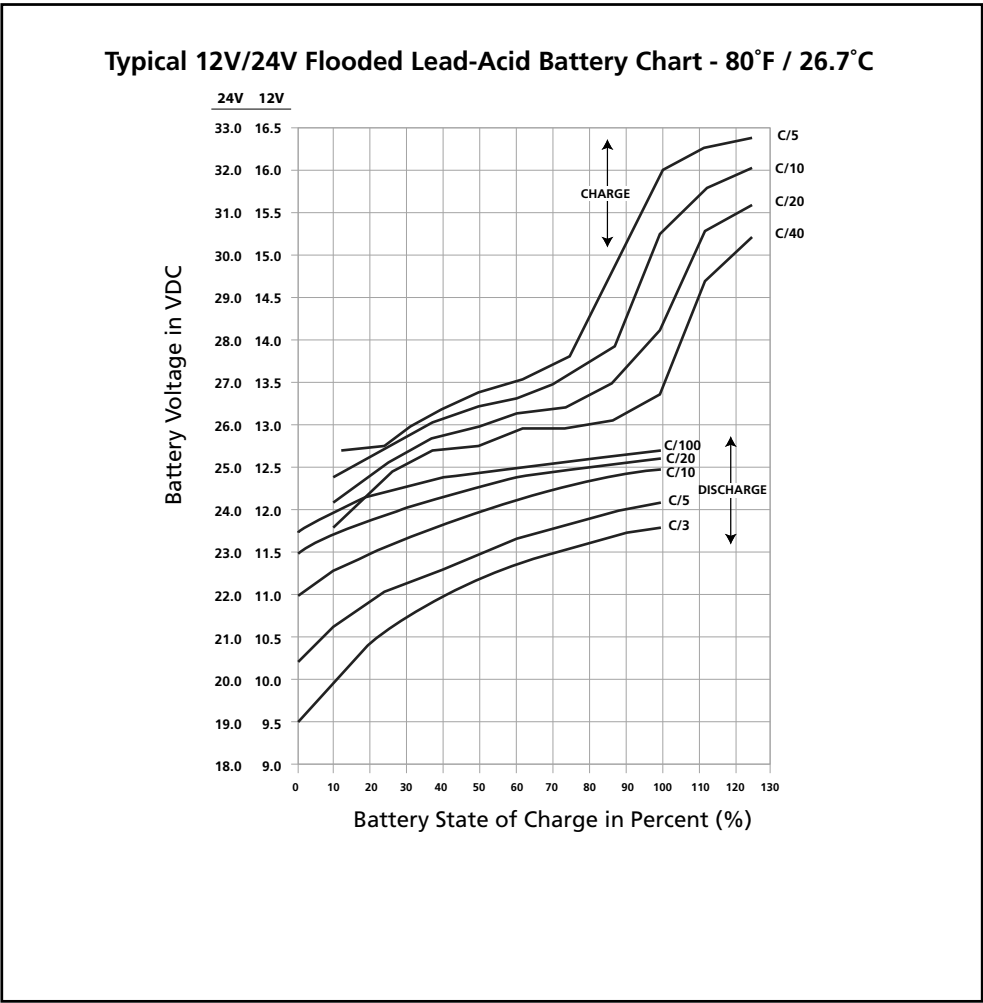

Fig 1.4.1 Charging / Discharging Curves for Typical 12V/24V Flooded Lead Acid Battery
1.4.11.1 Fig 1.4.1 shows examples of State of Charge / Discharge Curves for different C-rates for typical 12V / 24V Lead Acid Battery Bank / Bank at 80°F / 26.7°C. These curves are used to determine the State of Charge / Discharge of the battery based on its terminal voltage.
1.4.11.2 Example of Determining State of Charge (using Fig 1.4.1) when Charging 12V, 100Ah Battery at C-rate of 0.1C or C/10 or 10A: Refer to Charge Curve marked C10 of the upper 4 curves marked “CHARGE”. States of Charge at different battery terminal voltages will be: (a) At 15.3V = 100% charged; (b) At 14.3V = 90% charged; (c) At 13.5V = 70% charged; (d) At 12.5V = 15% charged
1.4.11.3 Example of Determining State of Discharge (using Fig 1.4.1) when Discharging 12V, 100Ah Battery Pack / Bank at C-rate of 0.33C or C/3 or 33.3A: Refer to Charge Curve marked C3 of the lower 4 curves marked “DISCHARGE”. States of Discharge at different battery terminal voltages will be: [a] At 9.5V = 100% discharged (0% charged); [b] At 10.4V = 80% discharged (20% charged): [c] At 11.5V = 28% discharged (72% charged) and [d] 11.75V = 0% discharged (100% charged)
The discharge curves in Fig. 1.4.1 show the % State of Charge versus the terminal voltage of typical Flooded Lead Acid Battery under different charge /discharge currents, i.e. “C-rates” and fixed temperature of 80°F. *(Please note that the X-Axis of the curves shows the % of State of Charge. The % of State of Discharge will be 100% - % State of Charge).*
As stated earlier at Section 1.4.14, the buzzer alarm is triggered when the voltage at the DC input terminals of the inverter has dropped to around 10.5V for a 12V battery pack / bank or 21V for 24V battery bank at C-rate discharge current of C/5 Amps. Please note that the terminal voltage relative to a particular State of Discharge decreases with the rise in the value of the discharge current. For example, terminal voltages for a State of Discharge of 80% (*State of Charge of 20%*) for various discharge currents will be as given at Table 1.4.5 (*Refer to Fig. 1.4.1 for parameters and values shown in Table 1.4.5*):
Inverters are normally provided with a protection to shut down the output of the inverter if the DC voltage at the input terminals of the inverter drops below a threshold of around 10V for a 12V battery or, 20V for 24V battery. Referring to the Discharge Curves given in Fig 1.4.1, the State of Discharge for various C-rate discharge currents for battery voltage of 10V / 20V is as follows: (Please note that the X-Axis of the curves shows the % of State of Charge. The % of State of Discharge will be 100% - % State of Charge):